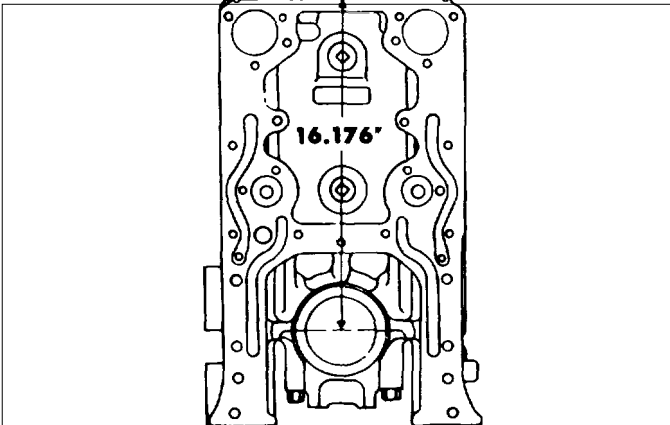

Fig. 17
- (b) If it is necessary to machine the top surface of the block to correct for the above conditions, do not remove more than .008" of metal. Stamp the amount of stock removed on the face of the block. The distance from the centerline of the crankshaft to the top of the block must not be less than 16.176" (Fig. 17).